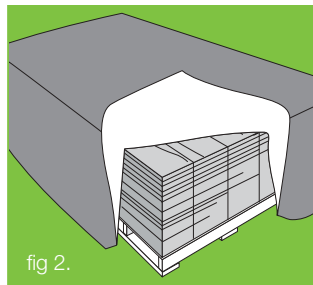

fig 2.
- **PROTECTED** with a waterproof covering, if storage outside is unavoidable (figure 2)